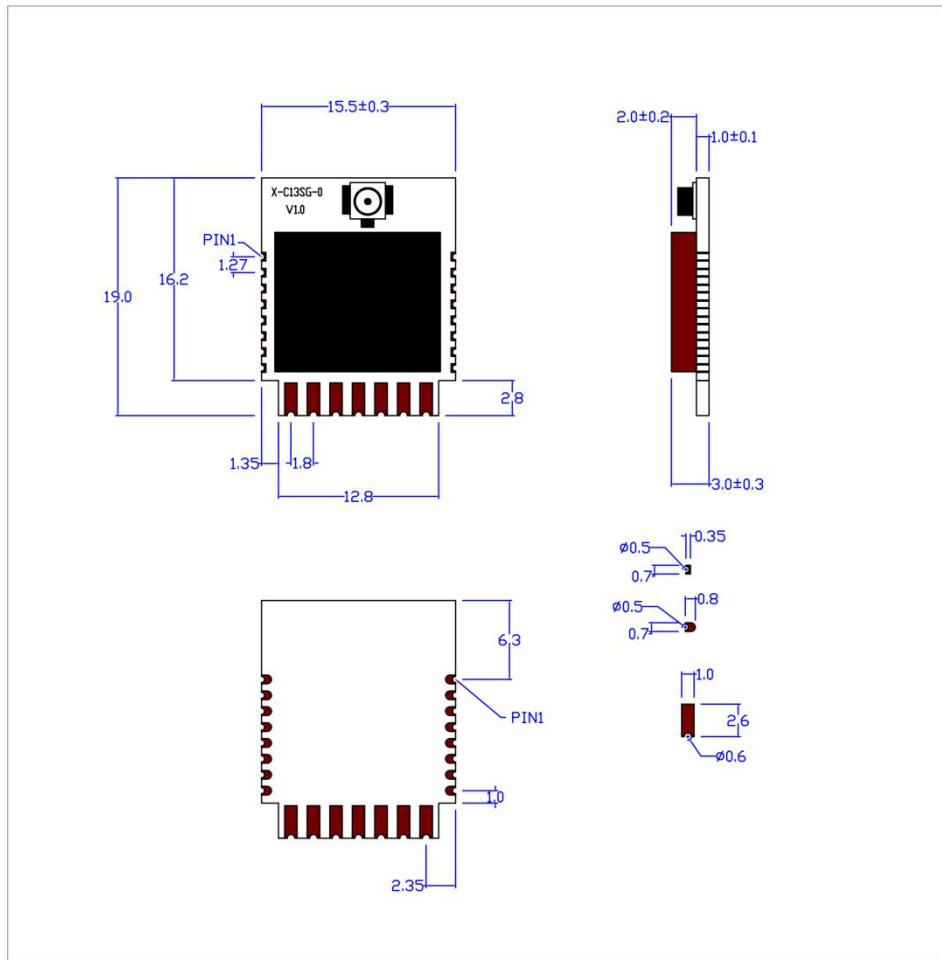

Figure 3. X-C13SG-0 Physical Dimensions
- Average (AP): 70mA
- Size: Figure 3
- X-C13SG-0 Physical Dimensions (Unit: mm),please refer to Figure 3: